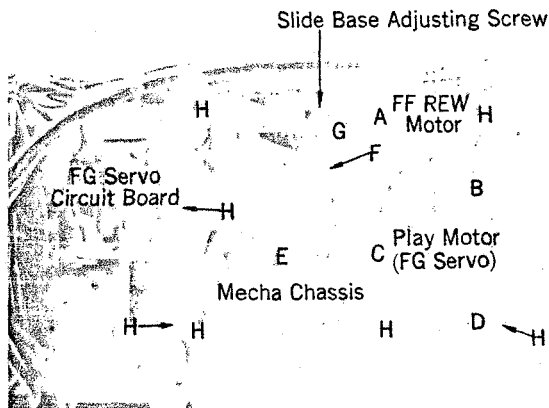

Fig. 4-3
2. Loosen flywheel thrust bearing (E in Fig. 4-3).
1. Loosen pulley ass'y fixing screw. (F in Fig. 4-3).
(Remove the screws A & B in Fig. 4-3).
(Remove the screws C & D in Fig. 4-3).
(Remove E type washer, G in Fig. 4-3).
(the fixing screws are under this circuit board Fig. 4-3)
(H in Fig. 4-3).